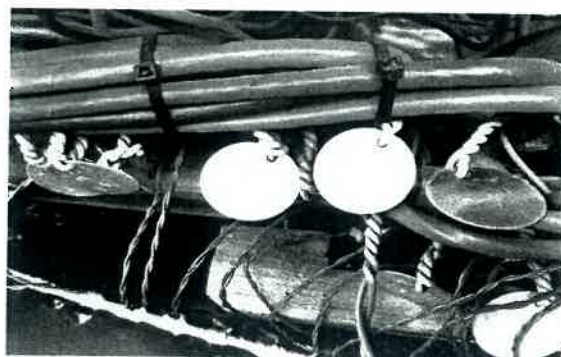

Figure-4
7. The Cables terminated on Location Box shall be identified by punched labels / Cable Identification Tag tied on each end of the cable for correct identification. (Annexure-A, Figure-4)
5. The Cables terminated on CT rack shall be identified by punched labels/ Cable Identification Tag tied on each end of the cable for correct identification. (Annexure-A, Figure-4).